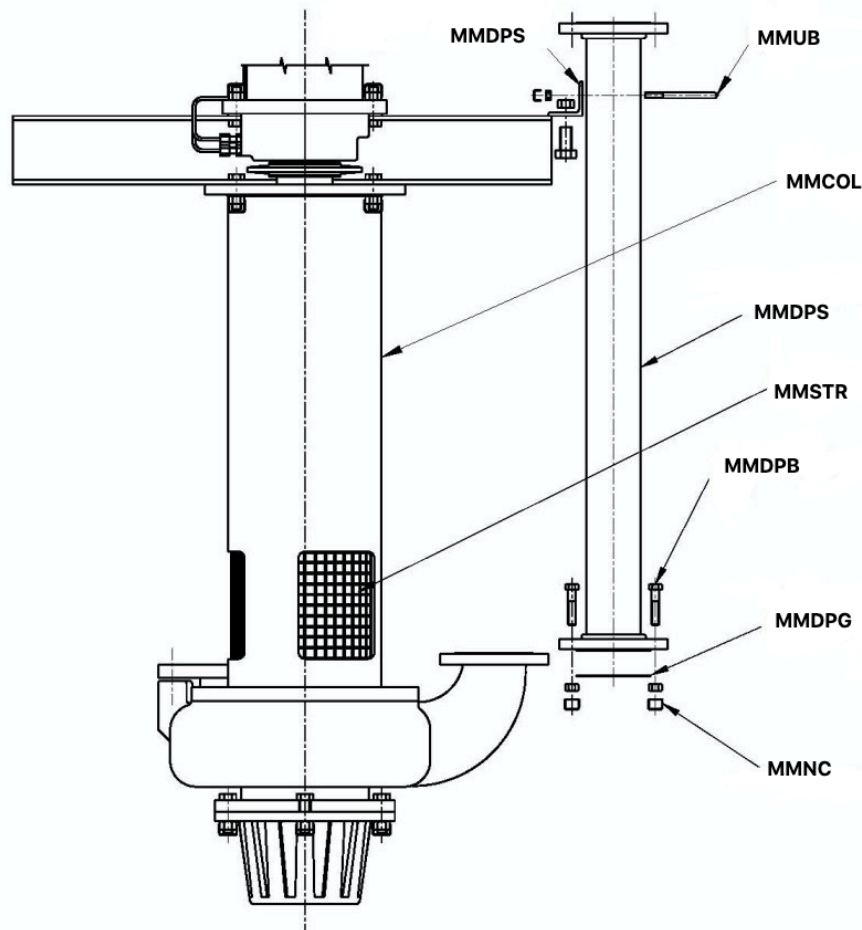
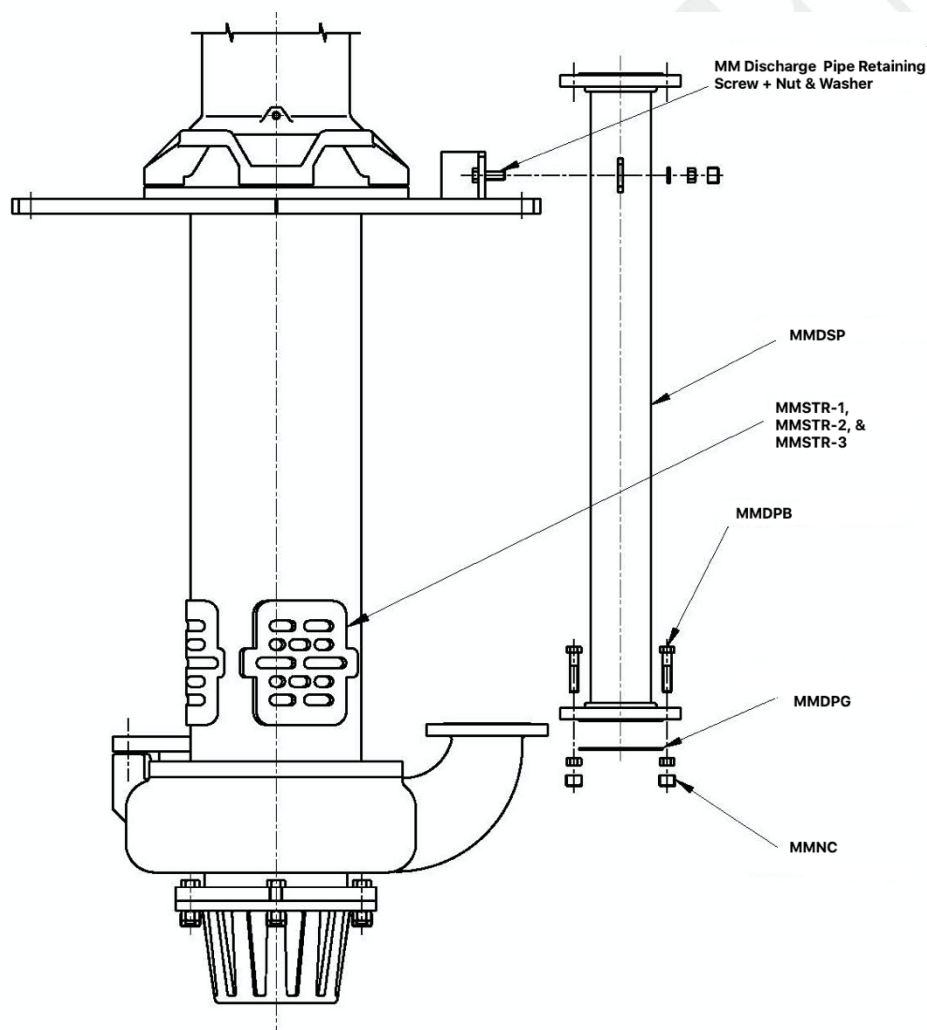

Figure 4 - Discharge Fitting
Figure 5 - Miscellaneous Fittings
4.3.1 Discharge Fitting (Ref Fig 4&5)
- IV. Only sump pumps with Standard Duty, Type V Bearing Assembly Refer Figure 4. Fit U-Bolt (UB) around top end of Discharge Pipe (MMDSP) with ends projecting through matching holed in Discharge Pipe Support (MMDPS). Fit two nuts and tighten firmly to secure Mill Master Discharge Pipe to Mill Master Discharge Pipe Support.
NOTE: Only Sump Pump with Heavy Duty Type V Bearing Assembly Refer Figure 5. Fit Discharge Pipe Retaining Screw and Nut to fasten top end of Discharge Pipe to Mounting Plate. Tighten nuts firmly.
V. All type HDPSP Sump Pumps – Refer Fig 4 & 5
- a. If rubber (MMSTRRR) or metal upper strainers (MMSTRCrWI28) are to fitted in lieu of rubber strainers described in Fig.4 or Fig.5 – Fit three (3) Upper Strainers (MMSTR) by bending the rubber strainer slightly, and fit into cut-out in Column so that the four Strainer lugs clip into sides of Column cut-out, and hold Strainer firmly.